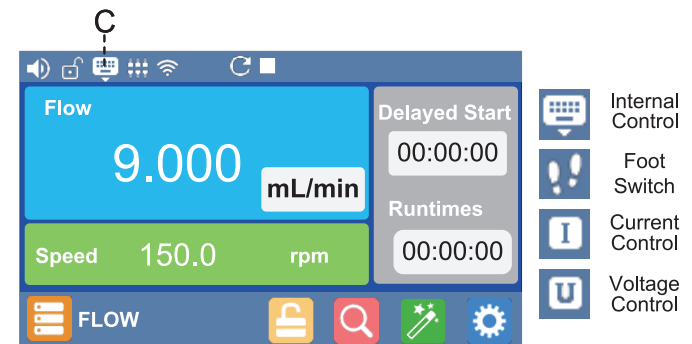

Figure 6 Control Mode
C. Control Mode. Display the current control mode, there are four modes, as shown in Figure 6: